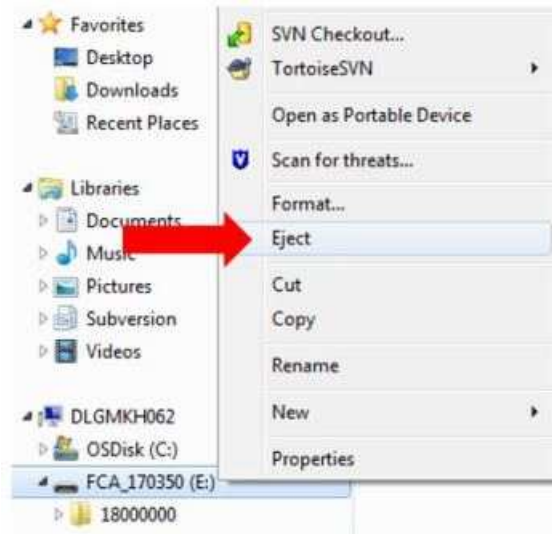

Fig. 6
10. Perform the following steps to properly eject the USB flash drive (Fig. 6) :